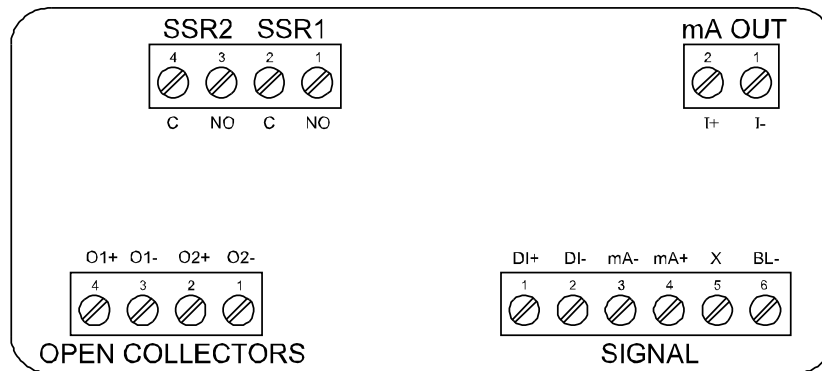

Figure 4. Connector Labeling for Fully Loaded PD6600
Signal connections are made to a six-terminal connector labeled SIGNAL on Figure 4. The following figures show a 4-20 mA current loop connected to the meter. The first figure shows the connection with the backlight disabled and the second shows the connection with the backlight enabled (the backlight can also be disabled in the system menu). The meter is powered by the 4-20 mA current loop. There are no switches or jumpers to set up for the input. Setup and programming is performed through the front panel buttons.
Relay connections are made to two-terminal connectors labeled SSR1 and SSR2 in Figure 4. Each relay's C terminal is common only to the normally open (NO) contact of the corresponding relay.